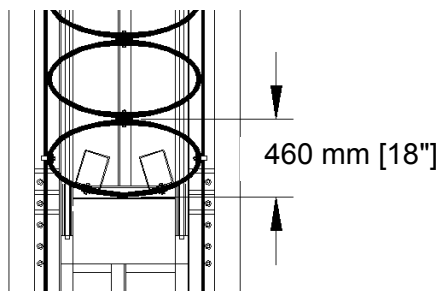

Figure 30 - Measure Minor Axis
The REACT 350[®] II system must be inspected after each impact. Depending on the impact, components may get damaged and need replacement. A cylinder requires replacement when the minor axis of the cylinder stays permanently at 460 mm [18"] or less (See Figure 30), or the system does not reach 90% of the original length. It is critical that all cables and anchoring be checked and returned to original assembly conditions. Any parts used in the repair of the system must be original Energy Absorption Systems parts (See Page 3).
5. Verify that all Cylinders are in good condition and properly positioned on the Base Track. Any Cylinder that is cracked or otherwise damaged should be replaced. Measure the minor axis of the Cylinders. Cylinders require replacement when the minor axis of the cylinders measures 460 mm [18”] or less (See Figure 30).
4. Check the condition of the Cylinders. Any Cylinder that is cracked or otherwise damaged should be replaced. Measure the minor axis of the Cylinders. Cylinders require replacement when the minor axis of the Cylinders measures 460 mm [18"] or less (See Figure 30).